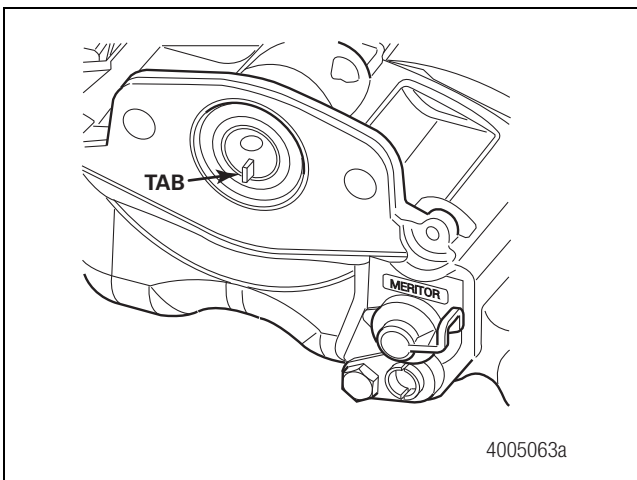
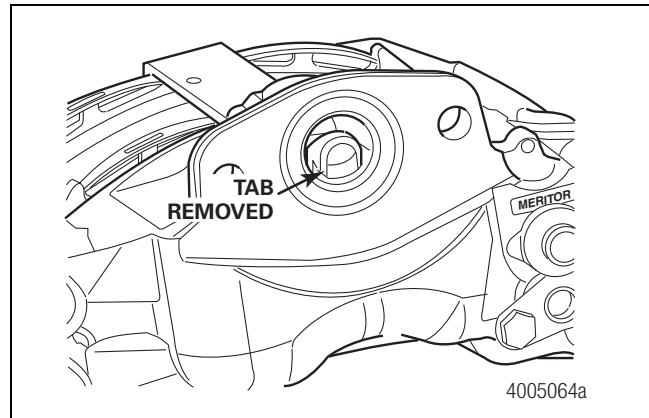

Figure 6.7
Figure 6.8
- Before you install the air chamber onto the caliper assembly, remove the perforated transit plug from the caliper chamber seal by pulling the tab. Figure 6.7 and Figure 6.8..